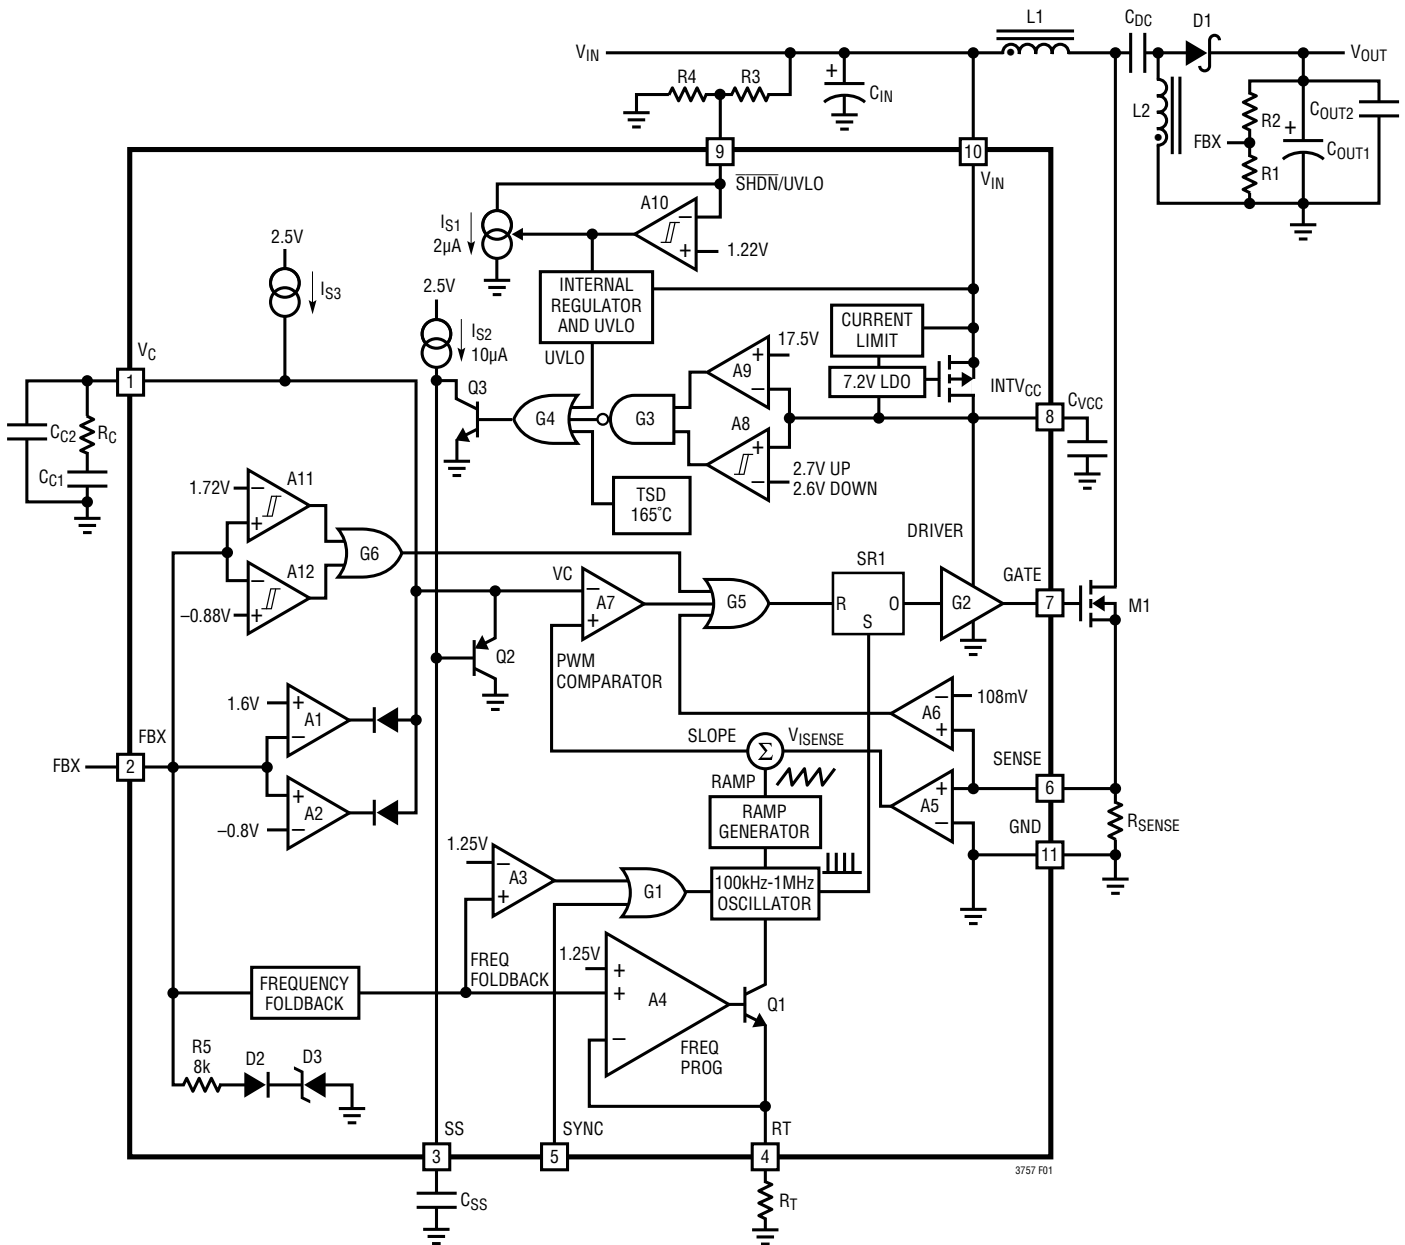

Figure 1. LT3757 Block Diagram Working as a SEPIC Converter
The LT3757 uses a fixed frequency, current mode control scheme to provide excellent line and load regulation. Operation can be best understood by referring to the Block Diagram in Figure 1.
The LT3757 is capable of generating either positive or negative output voltage with a single FBX pin. It can be configured as a boost, flyback or SEPIC converter to generate positive output voltage, or as an inverting converter to generate negative output voltage. When configured as a SEPIC converter, as shown in Figure 1, the FBX pin is pulled up to the internal bias voltage of 1.6V by a voltage divider (R1 and R2) connected from  $V_{OUT}$  to GND. Comparator A2 becomes inactive and comparator A1 performs the inverting amplification from FBX to  $V_C$ . When the LT3757 is in an inverting configuration, the FBX pin is pulled down to  $-0.8V$  by a voltage divider connected from  $V_{OUT}$  to GND. Comparator A1 becomes inactive and comparator A2 performs the noninverting amplification from FBX to  $V_C$ .
The purpose of this current is to allow the user to program the rising hysteresis. The Block Diagram of the comparator and the external resistors is shown in Figure 1. The typical falling threshold voltage and rising threshold voltage can be calculated by the following equations:
An internal, low dropout (LDO) voltage regulator produces the 7.2V INTVCC supply which powers the gate driver, as shown in Figure 1. If a low input voltage operation is expected (e.g., supplying power from a lithium-ion battery or a 3.3V logic supply), low threshold MOSFETs should be used. The LT3757 contains an undervoltage lockout comparator A8 and an overvoltage lockout comparator A9 for the INTVCC supply. The INTVCC undervoltage (UV) threshold is 2.7V (typical), with 100mV hysteresis, to ensure that the MOSFETs have sufficient gate drive voltage before turning on. The logic circuitry within the LT3757 is also powered from the internal INTVCC supply.
The choice of operating frequency may be determined by on-chip power dissipation, otherwise it is a trade-off between efficiency and component size. Low frequency operation improves efficiency by reducing gate drive current and MOSFET and diode switching losses. However, lower frequency operation requires a physically larger inductor. Switching frequency also has implications for loop compensation. The LT3757 uses a constant-frequency architecture that can be programmed over a 100kHz to 1000kHz range with a single external resistor from the  $R_T$  pin to ground, as shown in Figure 1. The  $R_T$  pin must have an external resistor to GND for proper operation of the LT3757. A table for selecting the value of  $R_T$  for a given operating frequency is shown in Table 1.
The output voltage ( $V_{OUT}$ ) is set by a resistor divider, as shown in Figure 1. The positive and negative  $V_{OUT}$  are set by the following equations:
In the applications where  $V_{OUT}$  is pulled up by an external positive power supply, the FBX pin is also pulled up through the R2 and R1 network. Make sure the FBX does not exceed its absolute maximum rating (6V). The R5, D2, and D3 in Figure 1 provide a resistive clamp in the positive direction. To ensure FBX is lower than 6V, choose sufficiently large R1 and R2 to meet the following condition:
The LT3757 addresses this mechanism with the SS pin. As shown in Figure 1, the SS pin reduces the power MOSFET current by pulling down the  $V_C$  pin through Q2. In this way the SS allows the output capacitor to charge gradually toward its final value while limiting the start-up peak currents. The typical start-up waveforms are shown in the Typical Performance Characteristics section. The inductor current  $I_L$  slewing rate is limited by the soft-start function.
The optimum values depend on the converter topology, the component values and the operating conditions (including the input voltage, load current, etc.). To compensate the feedback loop of the LT3757/LT3757A, a series resistor-capacitor network is usually connected from the  $V_C$  pin to GND. Figure 1 shows the typical  $V_C$  compensation network. For most applications, the capacitor should be in the range of 470pF to 22nF, and the resistor should be in the range of 5k to 50k. A small capacitor is often connected in parallel with the RC compensation network to attenuate the  $V_C$  voltage ripple induced from the output voltage ripple through the internal error amplifier. The parallel capacitor usually ranges in value from 10pF to 100pF. A practical approach to design the compensation network is to start with one of the circuits in this data sheet that is similar to your application, and tune the compensation network to optimize the performance. Stability should then be checked across all operating conditions, including load current, input voltage and temperature.